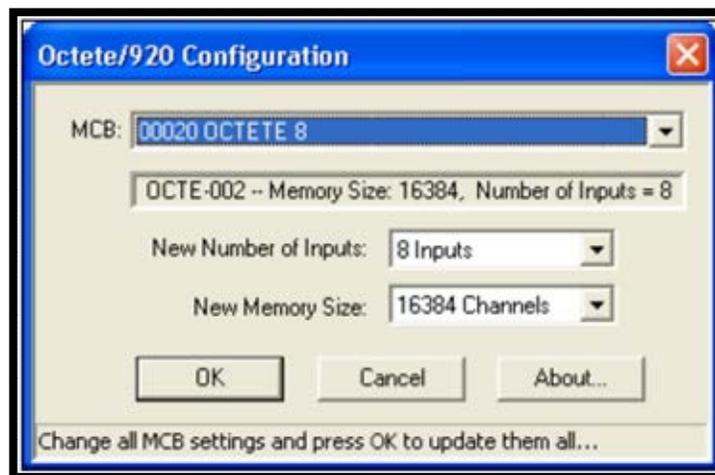

Figure 202. The SET920 Configuration Dialog
- Figure 202 shows the SET920 dialog. Click the MCB drop list and select the input to be changed (SET920 displays only the OCTÊTEs and 920s on your current Master Detector List).